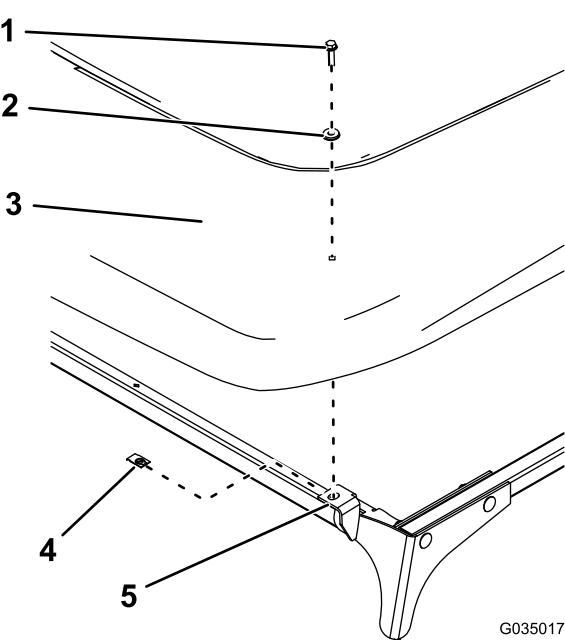

Figure 12
12. Install the sunshade to the front plates using 2 clips, 2 sealing washers, and 2 hex-flange bolts (1/4 x 1 inch) as shown in Figure 12.